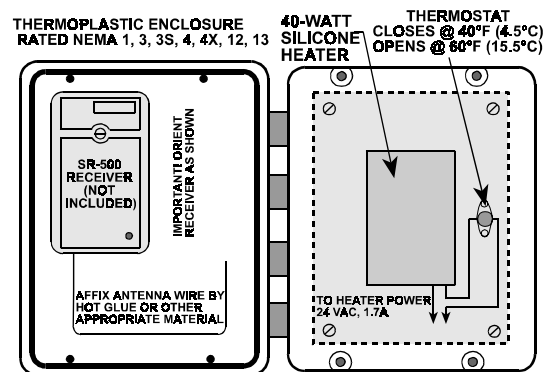

Figure A-1. Internal Construction of the Heated Enclosure
Whenever SR-500 (ER) is installed outdoors in cold regions, it becomes necessary to protect the sensitive electronics from exposure to temperatures below 0°C (32°F). The enclosure available for this purpose is Carlon model CJ-863, in which a heater kit is installed (see Figure A-1).